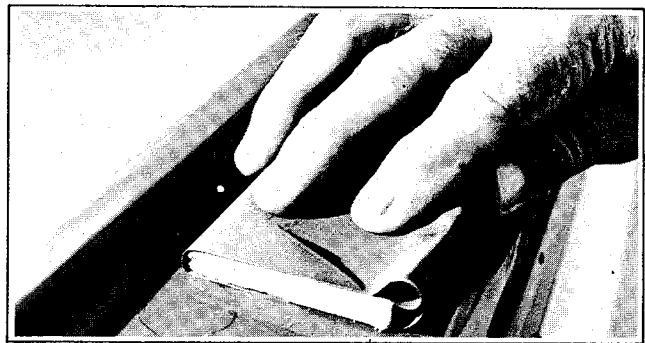

Figure 2-39. Sanding Patch
9. Sand the patched area, using a sanding block with 600-grit wet sandpaper. Finish by buffing with fine rubbing compound such as DuPont #606 and waxing. Weathering will aid to blend touch-up if a slight color difference can be observed. See Figure 2-39.